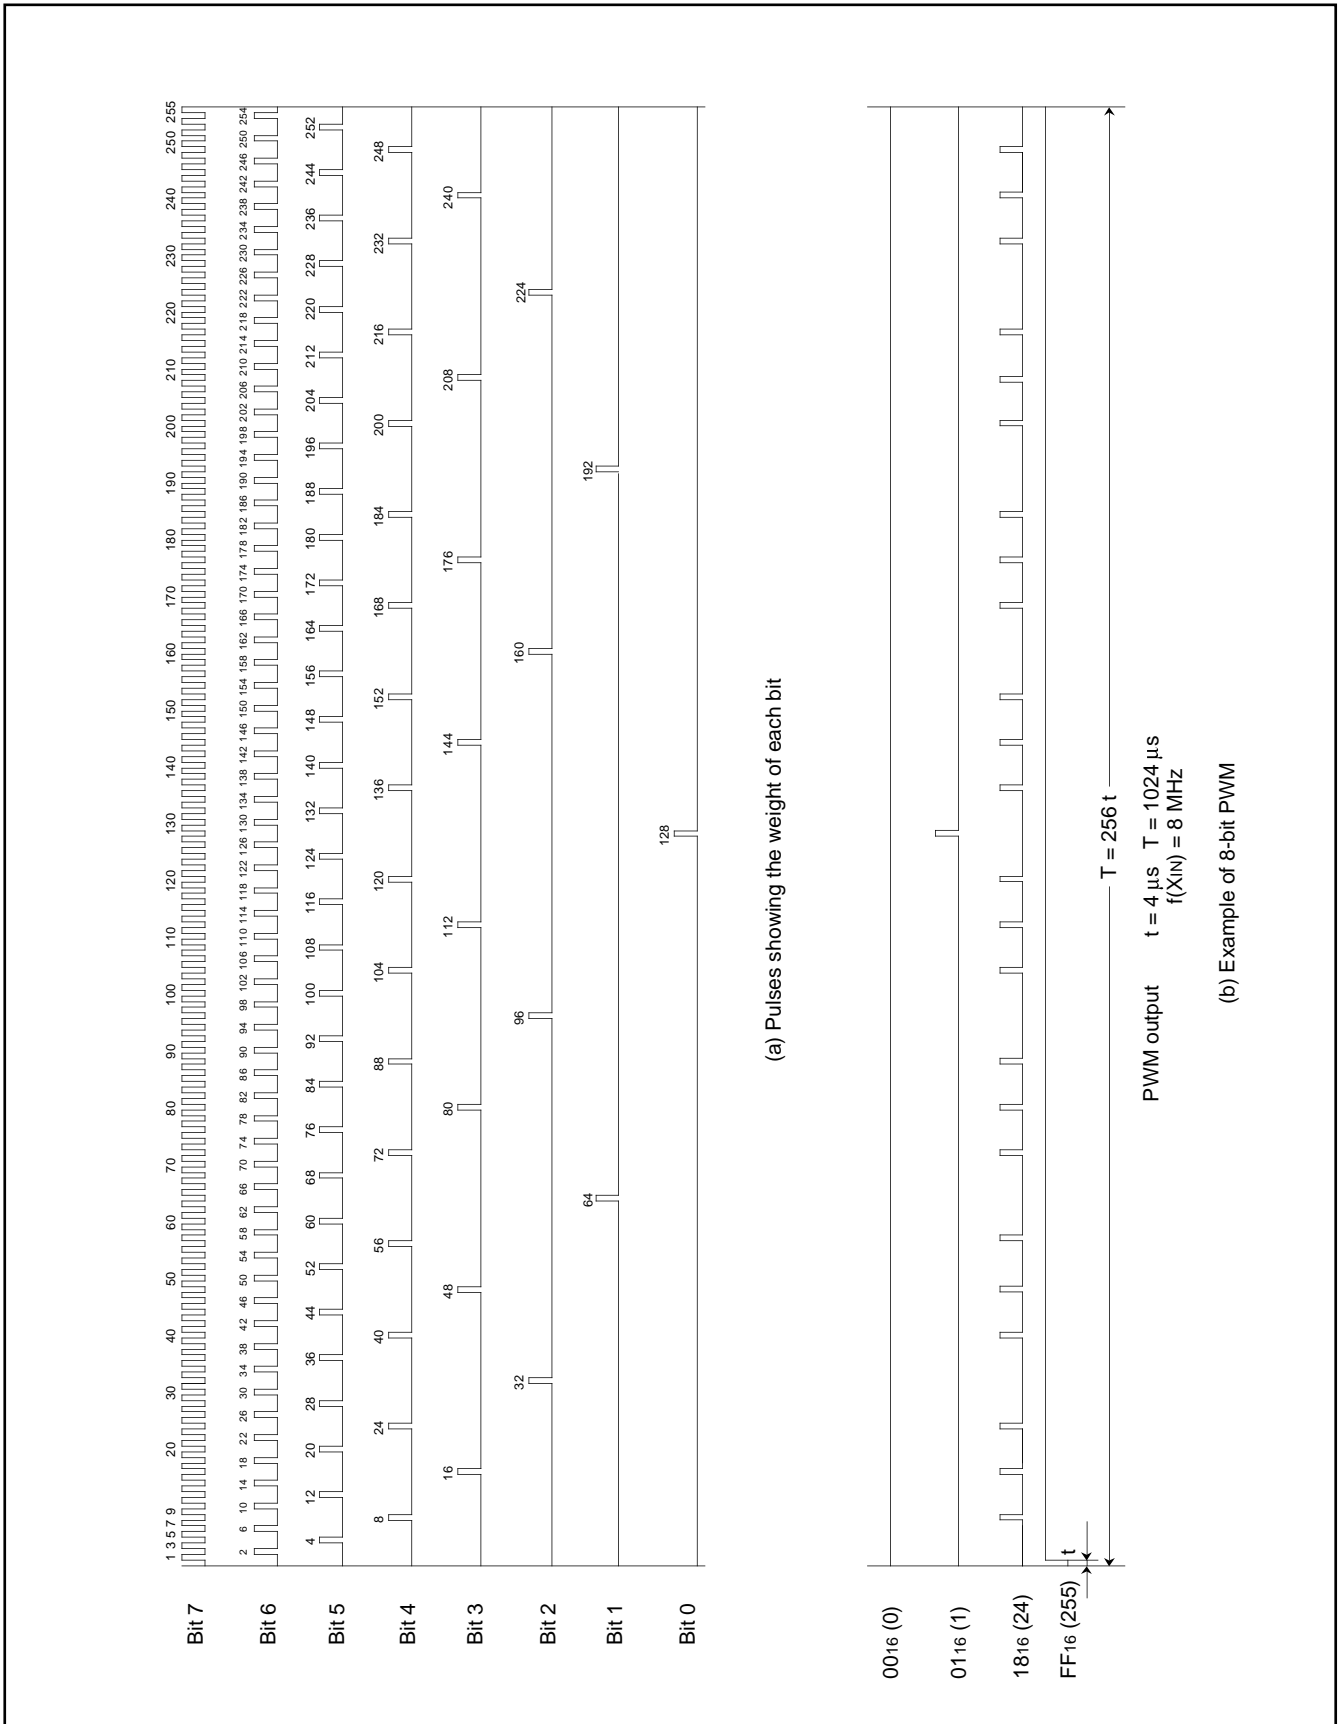

Fig. 24. 8-bit PWM timing
Figure 24 shows the 8-bit PWM timing. One cycle (T) is composed of 256 (2^8) segments. The 8 kinds of pulses relative to the weight of each bit (bits 0 to 7) are output inside the circuit during 1 cycle. Refer to Figure 24 (a). The 8-bit PWM outputs waveform which is the logical sum (OR) of pulses corresponding to the contents of bits 0 to 7 of the 8-bit PWM register. Several examples are shown in Figure 24 (b). 256 kinds of output ("H" level area: 0/256 to 255/256) are selected by changing the contents of the PWM register. A length of entirely "H" output cannot be output, i.e. 256/256.
(4) Operating of 14-bit PWM